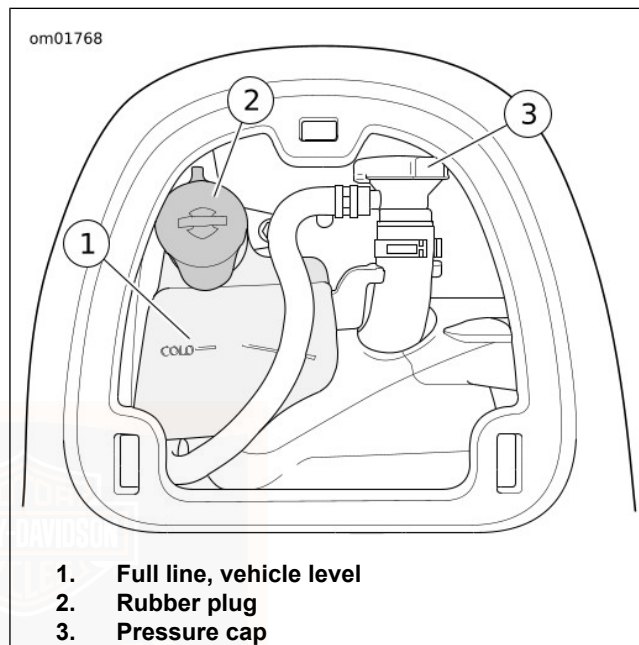

Figure 48. Coolant Level
2. See Figure 48. Check that coolant level in coolant bottle is at or slightly above the "COLD" line.